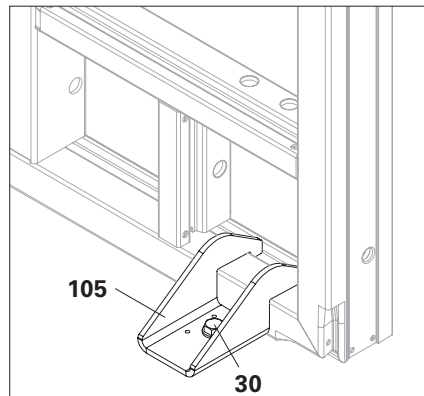
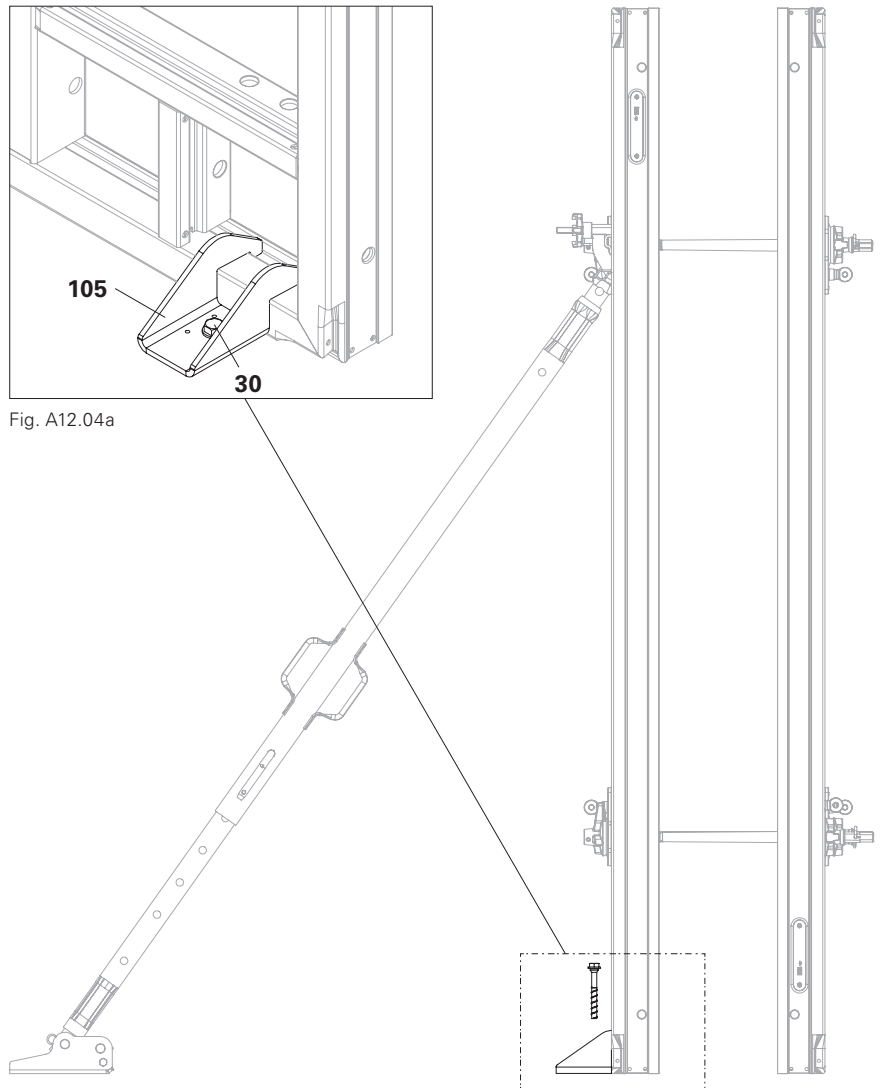

Fig. A12.04a
Fig. A12.04
- Further information can be found in Section "A11 Push-pull props and kicker braces" on page 62. (Fig. A12.04 + Fig. A12.04a)